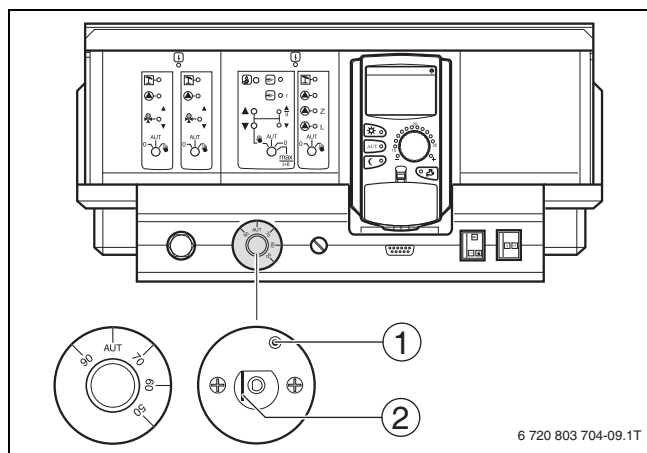

Fig. 14 Triggering the high limit safety cut-out
- ▶ Depending on the type of controller, push the lever or button (→ Fig. 14) back with a screwdriver or similar tool and hold until the high limit safety cut-out has triggered.
- ▶ Depending on controller type, release the lever or button (→ Fig. 14, page 14).